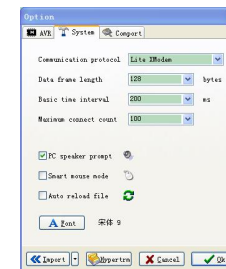

Fig. 10
- 4) Start avrubd. At Option - System tab select "Lite XModem" as communication protocol and set maximum connect count to 100 (see Fig. 10).